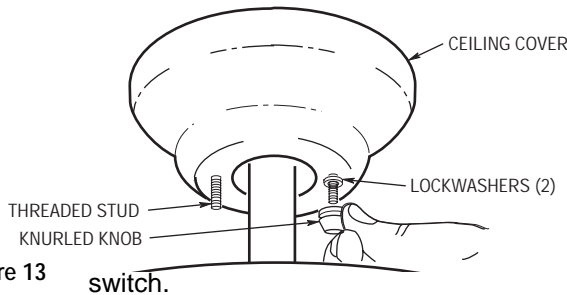

Figure 13
- 4. Lift the ceiling cover up to the threaded studs and turn until studs protrude through the holes in the ceiling cover (Figure 13).
- 5. Secure the ceiling cover in place by sliding lockwashers over the threaded studs and installing the two knurled knobs (supplied). (Figure 13.) Tighten the knurled knobs securely until the ceiling cover fits snugly against the ceiling and the hole in the ceiling cover is clear of the downrod. Your fan is now wired to be turned on and off from the fan